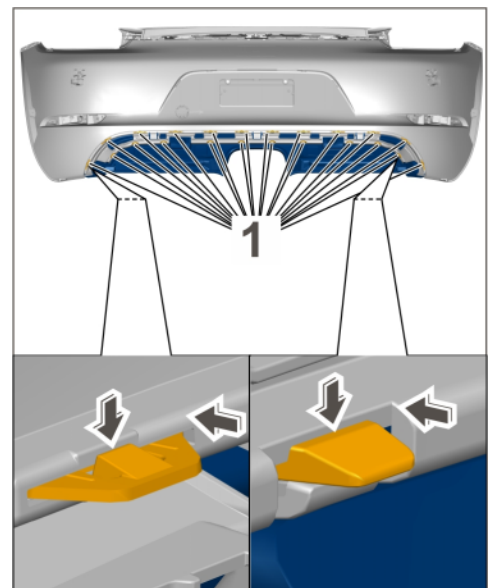

Figure 38
- 6.8 Clip rear skirt ⇒ *Figure 38 -1-* and rear apron together. ⇒ *Workshop Manual '636819 Removing and installing rear skirt'*